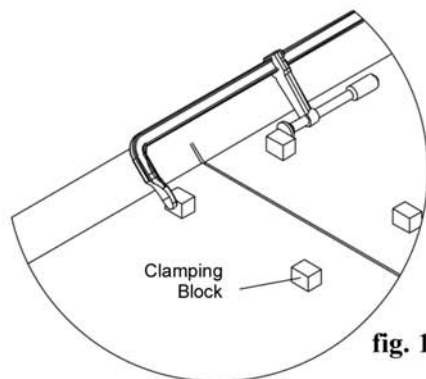
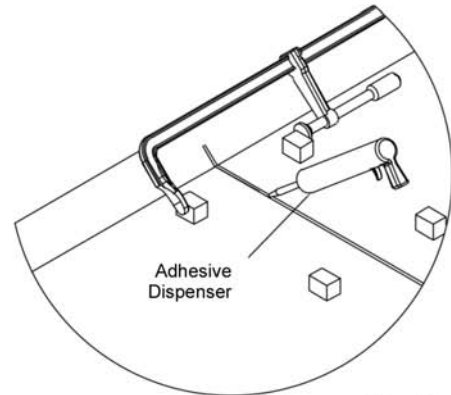
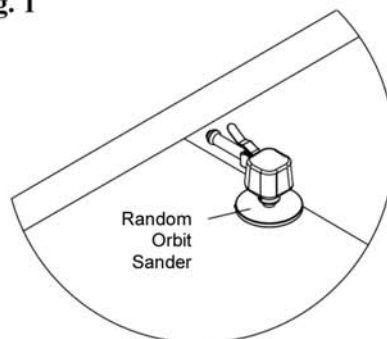

fig. 1
fig. 2
fig. 3
2. Hard seaming: Hard seaming is the joining of two or more panels with two-part adhesives to form inconspicuous seams. Make hard seams on a flat work surface. Cut edges straight and square. See figure 1. When seaming Illusion Solid Surface Panels, use a "wigggle" template to make the seam. Apply clamping blocks made from solid surface material to the surface of the wall panel with clear hot melt glue. Blocks should be 3" from each edge and every 6" over the length of the seam. Tighten clamps so the gap at the seam is 1/8". See figure 2. Apply two-part adhesive to the seam and tighten the clamps until the adhesive squeezes out. Allow adhesive to cure. Remove clamps and clamping blocks. See figure 3. Sand off excess adhesive, starting with 100 micron grit sandpaper, 60 micron grit sandpaper and followed by a Scotch-Brite® pad, (#7447 Maroon, Very Fine) for matte/solid colors or a Scotch-Brite® pad, (#7448 Gray, Ultra Fine) for semi-gloss/granite colors. Start sanding 6" on either side of the seam and conclude the sanding by going as wide as 12" on either side of the seam.